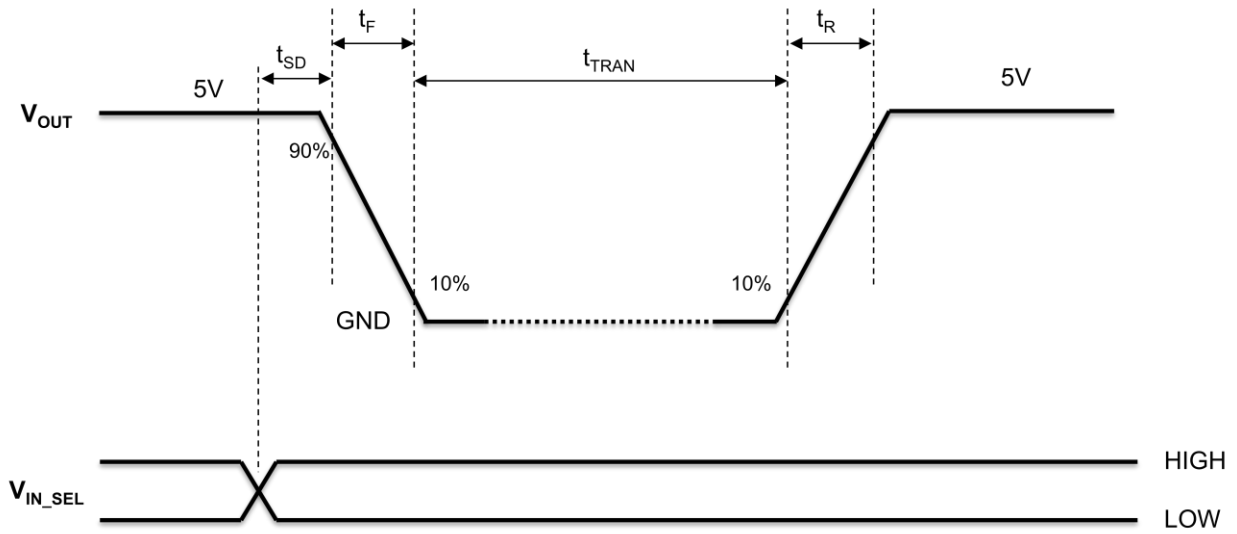

Figure 6. Transition Delay ($V_{IN}=V_{BUS}=5\text{ V}$)
- $t_{SD}/t_{TRAN}/t_r/t_f$ are defined in Figure 6.